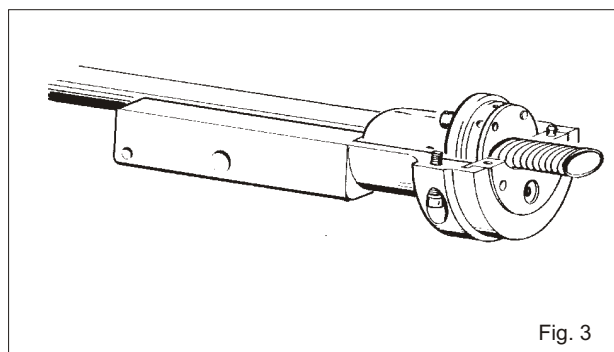

Fig. 3
Hohlleiter bördeln Fig. 3:
Fig. 3: Slide the back end (3) onto waveguide up to stop at PE-jacket. Insert both into the flanging die and fasten the captive screws. If necessary, again loosen the flanging die, rotate it 180° on the waveguide and mount it again. By this the waveguide length may be aligned to half a lead of the corrugated tube.